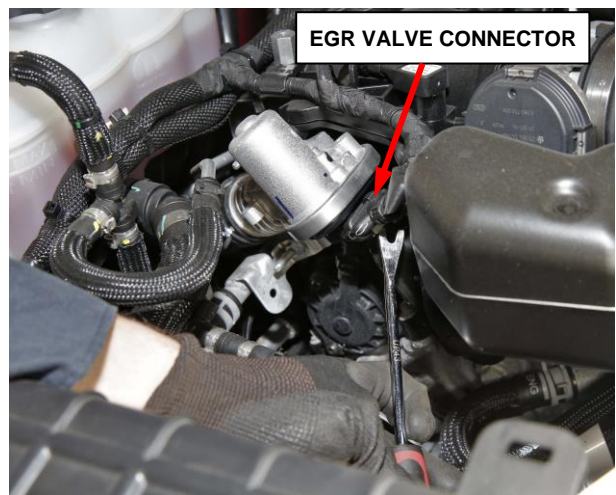

Figure 8 – EGR Valve Connector
11. Disconnect the EGR valve wire harness connector (Figure 8).
5. Connect the EGR valve wire harness connector (Figure 8).